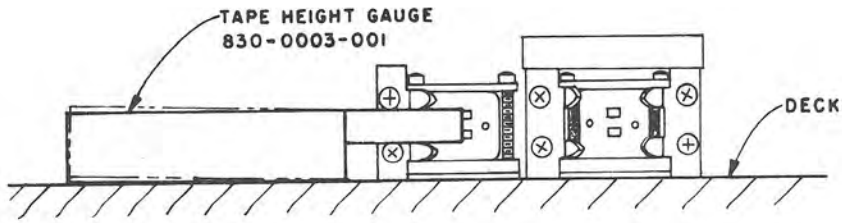

FIGURE 5-13
the tape guide as shown in Figure 5-13. The gauge should advance fully into the tape guide, without friction, while resting flat on the deck—not tilted as shown by the dashed line (or its opposite) in Figure 5-13. The tape height gauge should be demagnetized so that it will not effect the “heads.”
3. Keeping the Tape Height Gauge flat on the deck, position the tape guide as shown in Figure 5-13.